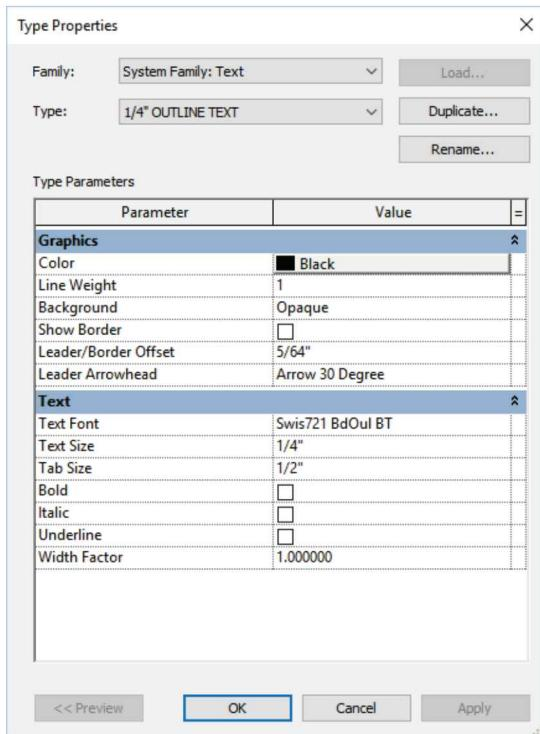

FIGURE 9-4.4 New text properties
8. Next, make the following adjustments to the *Type Properties* (Figure 9-4.4).